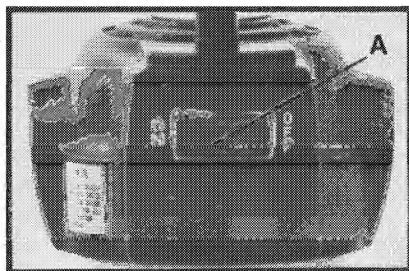

Fig. 3
The router is started and stopped by depressing the rocker switch (A) Fig. 3, into the ON or OFF position.
A thermal type circuit breaker is incorporated into the ON/OFF rocker switch (A) Fig. 3. This circuit breaker will turn the switch OFF if prolonged overload conditions are encountered.